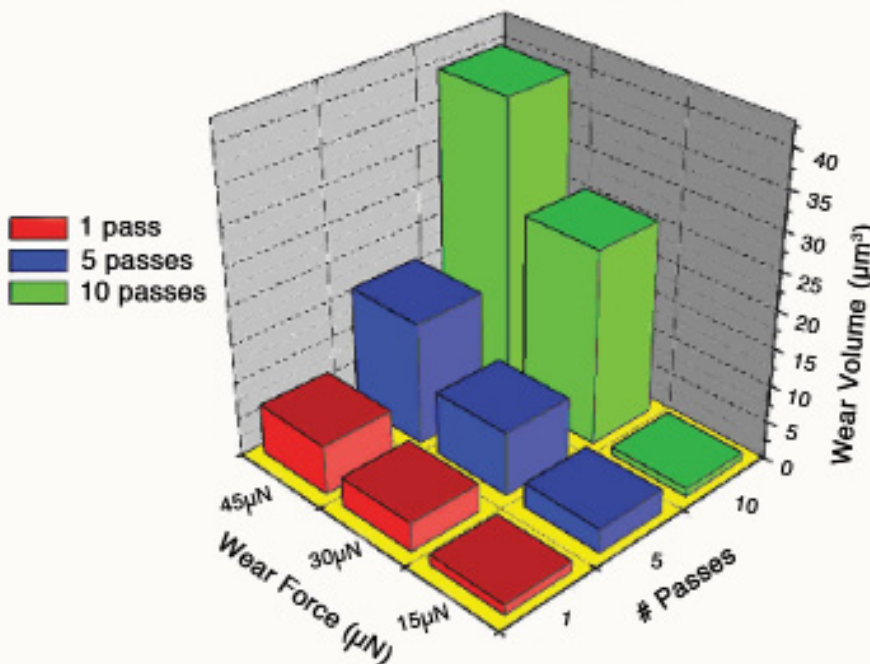

Figure 3. Wear volumes measured as a function of wear force and number of passes on DLC coating corresponding to *in-situ* image given in figure 2.
**ScanningWear** enables the ability to wear at different loads and carry out several wear experiments on one sample as shown in Figure 1. This experiment involved several individual wear tests carried out at increasing loads and number of passes on a DLC film coating on a hard drive. The amount of material removed in each wear test was measured using *in-situ* imaging and is given in figure 3.